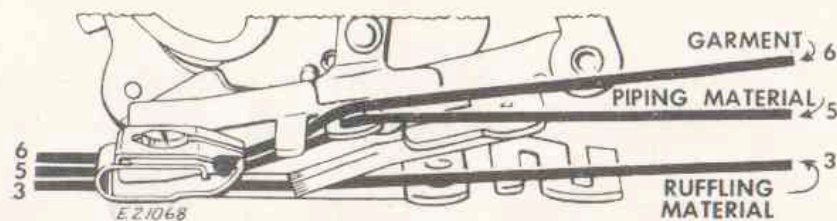

Fig. 62. Correct Positions for Materials
1. Insert material to be ruffled between two blue blades from the right (**Line 3, Fig. 62**). This material must not exceed $1\frac{1}{4}$ inches in width.
2. The piping material is usually cut on the bias and it should be about $\frac{1}{4}$ inch wide when folded in centre. Place piping material in ruffler, following **Line 5, Fig. 62** with folded edge of piping to right.
3. Fold edge of material to which piping and ruffling are to be attached and insert it in ruffler, from the left following **Line 6**, **Fig. 62**.